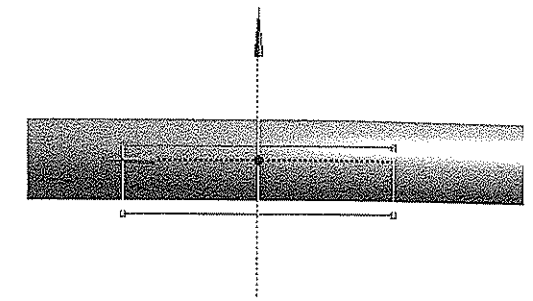

Figure 5-45 The sketch after the vertical lines are made symmetric
18. Select the right vertical line as the second edge; the sketch is adjusted symmetrically about the vertical axis, as shown in Figure 5-45.